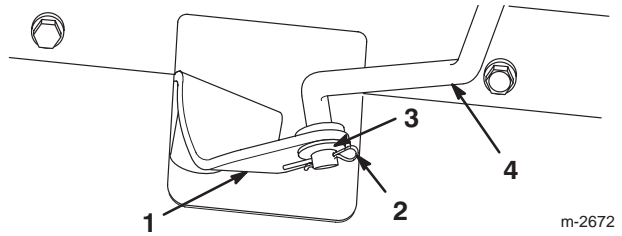
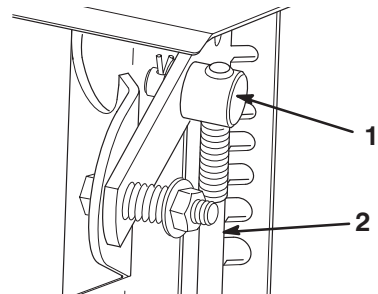

Figure 7
Figure 9
- Pull the speed selector arm (Fig. 7) to the most outward position.
- Rotate the speed selector rod in the trunnion (Fig. 9) until the bottom end of the rod can slip into the hole in the speed selector arm (Fig. 7).
- Install the speed selector rod into the selector arm, add one flat washer on the rod, and secure it with a cotter pin (Fig. 7).